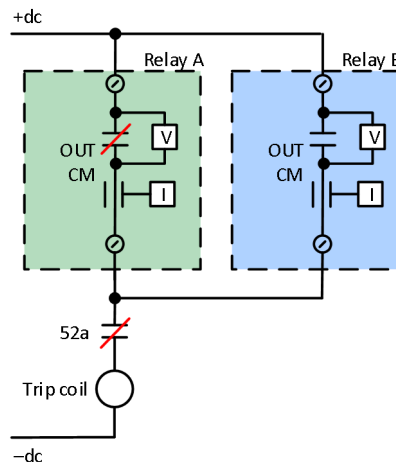

Figure 6 Measurement of Voltage Across and Current Through CM Contact Outputs
Contact outputs OUT101 through OUT103 are denoted with CM (see *Figure 2*), indicating they are Circuit Monitoring (CM) outputs. These high-speed, high-current-interrupting contact outputs include integrated measurements of the dc voltage across the output as well as the dc current flowing through the output, as shown in *Figure 6*. These measurements are provided as analog quantities that are available for use in SELLOGIC programming and recorded in the event report for circuit and breaker analytics.